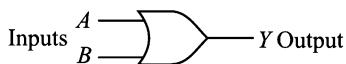

**Fig. 26.6**
**OR gate operation.** Fig. 26.6 (i) shows one way to build a 2-input OR gate while Fig. †26.6 (ii) shows its simplified schematic diagram. The input voltages are labeled as  $A$  and  $B$  while the output voltage is  $Y$ . Note that negative terminal of the battery is grounded and corresponds to 0 state (LOW level). The positive terminal of the battery (+5 V) corresponds to 1 state (HIGH level). There are only four input-output possibilities.
† As you can see in Fig. 26.6 (ii) that output is high when *either* or *both* of the input switches are closed but not when both are open.
(i) When both  $A$  and  $B$  are connected to ground, both diodes are non-conducting. Hence, the output voltage is ideally zero (low voltage). In terms of binary, when  $A = 0$  and  $B = 0$ , then  $Y = 0$  as shown in the truth table in Fig. 26.6 (iii).
(ii) When  $A$  is connected to ground and  $B$  connected to the positive terminal of the battery, diode  $D_2$  is forward biased and diode  $D_1$  is non-conducting. Therefore, diode  $D_2$  conducts and the output voltage is ideally +5 V. In terms of binary, when  $A = 0$  and  $B = 1$ , then  $Y = 1$  [See Fig. 26.6 (iii)].
(iii) When  $A$  is connected to the positive terminal of the battery and  $B$  to the ground, diode  $D_1$  is on and diode  $D_2$  is off. Again the output voltage is +5 V. In binary terms, when  $A = 1$  and  $B = 0$ , then  $Y = 1$  [See Fig. 26.6 (iii)].
(iv) When both  $A$  and  $B$  are connected to the positive terminal of the battery, both diodes are on. Since the diodes are in parallel, the output voltage is +5 V. In binary terms, when  $A = 1$  and  $B = 1$ , then  $Y = 1$  [See Fig. 26.6 (iii)].